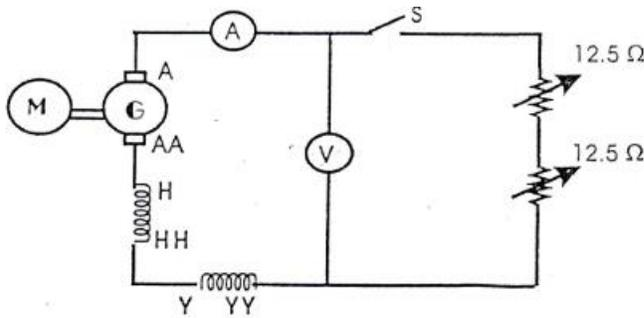

Fig. 2
2. Connect the generator for self - excitation series generator. (Fig2). Vary the load (the load is two rheostat resistance 12.5 -10 A connected in series) from zero load current to 125% full load current in 6 steps and record the values of VL and IL.